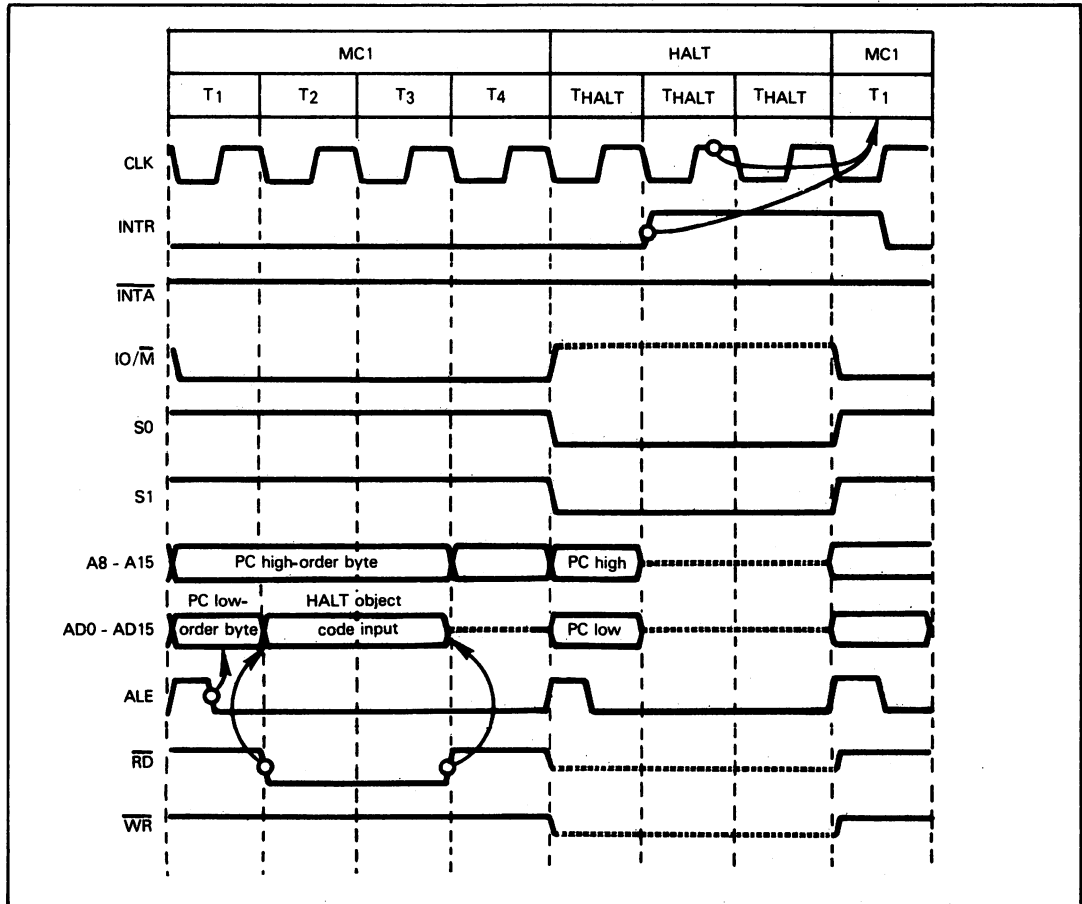

Figure 5-14. A Halt Instruction and a Halt State Terminated by an Interrupt Request
- 3) The Halt Bus Idle machine cycle. Following execution of a Halt instruction an indeterminate number of Bus Idle machine cycles are executed for the duration of the Halt condition. Timing is illustrated in Figure 5-14.
Hold is sampled during every clock period of a Halt state. As soon as Hold is detected high, a two clock period Hold state initiation sequence begins. Figures 5-14 and 5-15 illustrate the onset of Hold states within and before Halt states.
Halt state timing is illustrated in Figure 5-14.
**A Halt state may be terminated by a system reset or by an interrupt request. Figure 5-14 shows an interrupt request terminating the Halt state.**
Note that the INTR signal, like the HOLD signal, is sampled two clock periods before anything can happen. Thus, as illustrated in Figure 5-14, an additional Halt clock period will occur after the clock period within which INTR goes high.